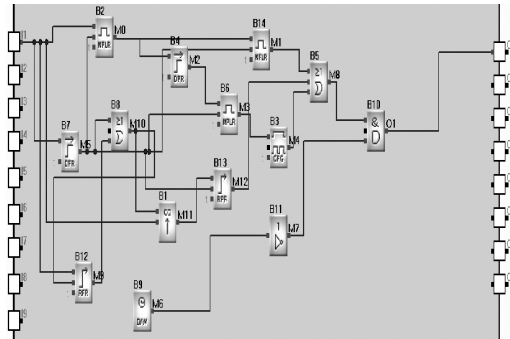

Fig 4.11
3. Multi-function switch diagram is complete, as shown in Fig. 4.11.